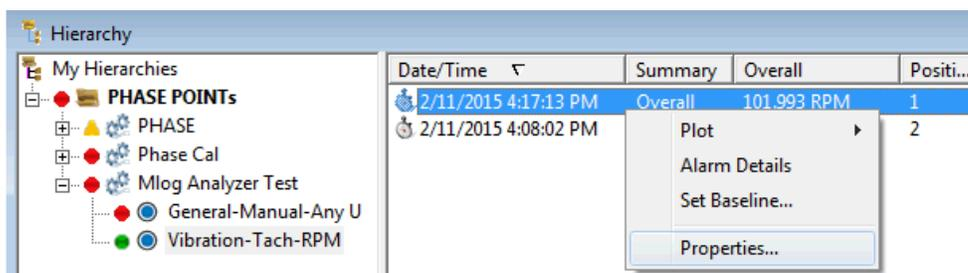

Figure 3. Right-click measurement to open Properties
1. Right-click on the measurement in the right-hand pane, then select Properties as shown in Figure 3 below.